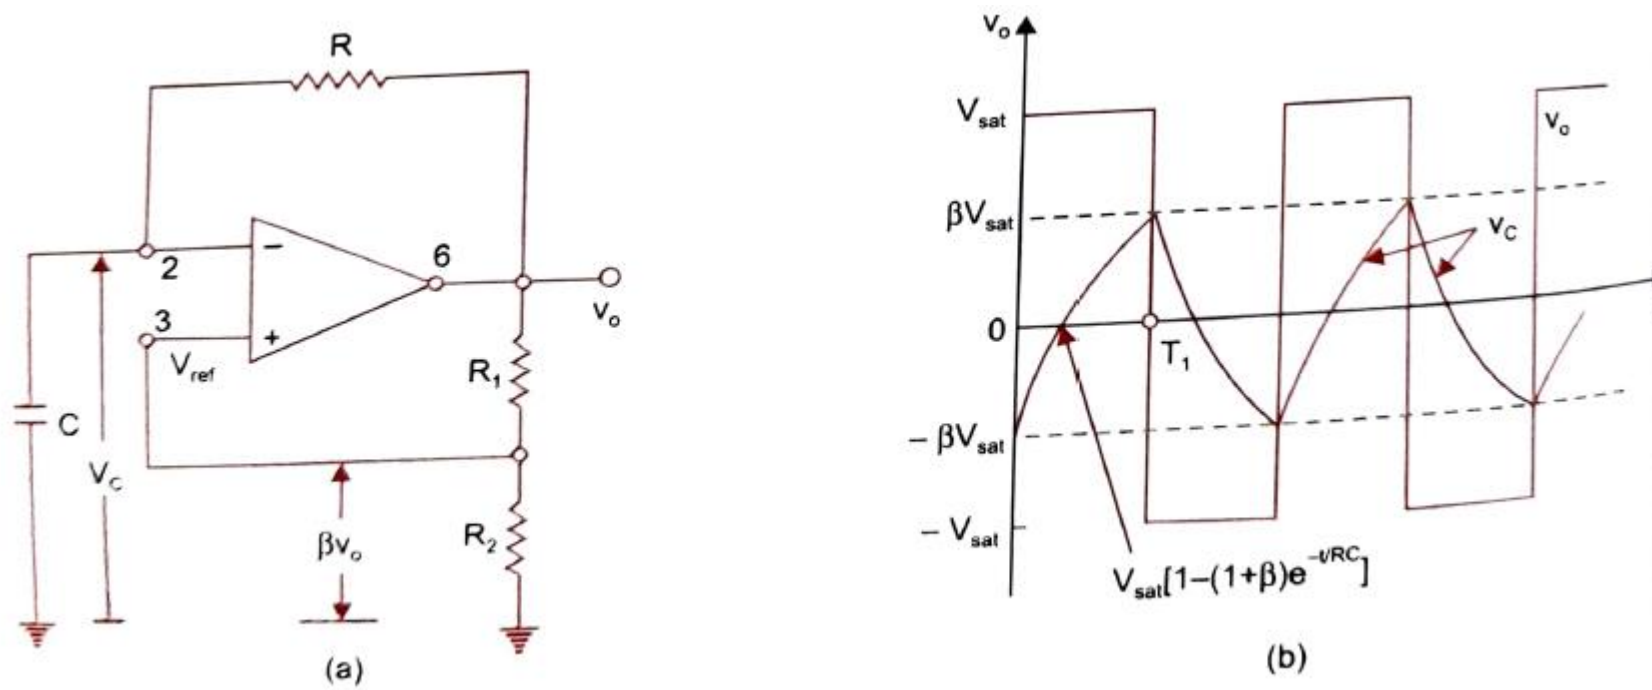

Fig. 1 (a) Simple op-amp square wave generator (b) Waveforms
- In Fig. 1 (a) fraction  $\beta = R_2 / (R_1 + R_2)$  of the output is fed back to the (+) input terminal.
- Consider an instant of time when the output is  $+V_{sat}$ . The capacitor now starts charging towards  $+V_{at}$  through resistance  $R$ , as shown in Fig. 1 (b).